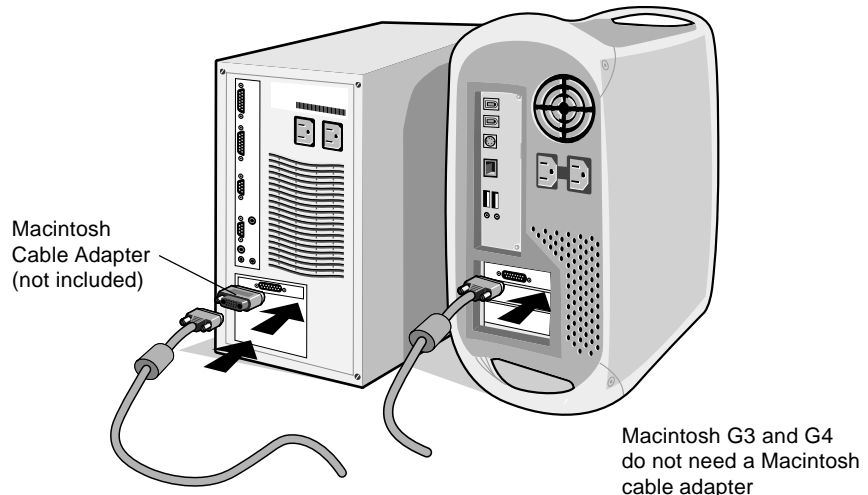

Figure B.1
**For Mac:** Connect the LCD1501 Macintosh cable adapter to the computer (**Figure B.1**). Attach the 15-pin mini D-SUB end of the appropriate signal cable to the LCD1501 Macintosh cable adapter (**Figure B.1**). Tighten all screws.